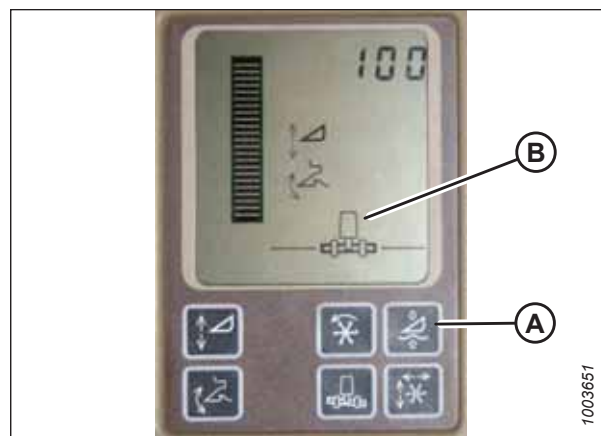

Figure 4.228: John Deere Combine Display
Do **NOT** use active header float function (A) in combination with the AHHC system; the two systems will counteract each other. Header symbol (B) on the display should **NOT** have a wavy line under it and should appear exactly as shown on the Active Header Control Display in Figure 4.228, page 239.